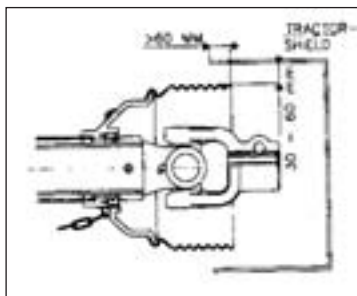

Fig. 6.2
1. After connecting the PTO drive shaft to the implement, always check for sufficient overlap of 50mm between the guard on the implement and the PTO drive shaft guard (Fig. 6.2.). Do not operate if this overlap is less than 50mm.